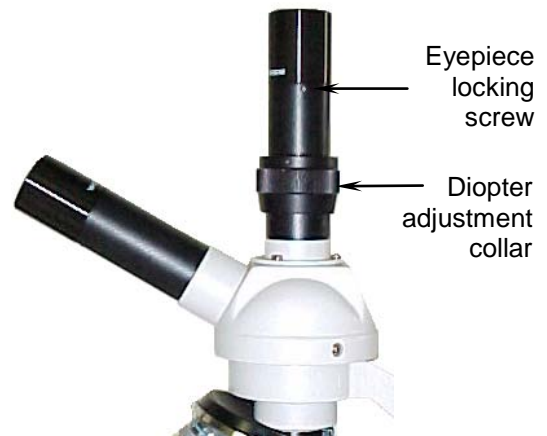

Fig. 2
1. To use the inclined eyepiece tube, focus on sample using the coarse (12) and fine focus knobs (13).
2. To compensate for the difference in vision of the two observers, the user of the vertical eyepiece tube can adjust focus by turning the diopter adjustment collar. (Fig. 2).